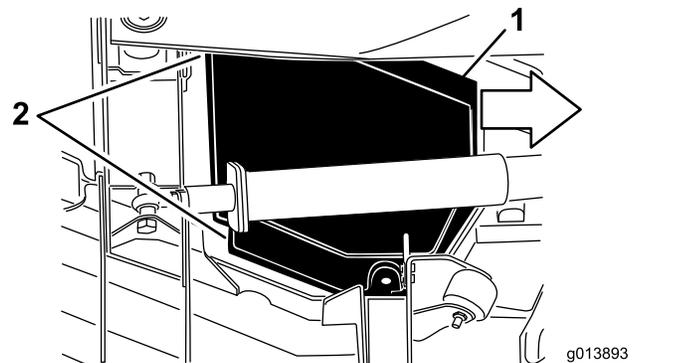

Figure 84
5. While lifting the cover, slide it toward the traction unit approximately 2.5 cm (1 inch), to disengage the outer cover edge from the deck (Figure 84).